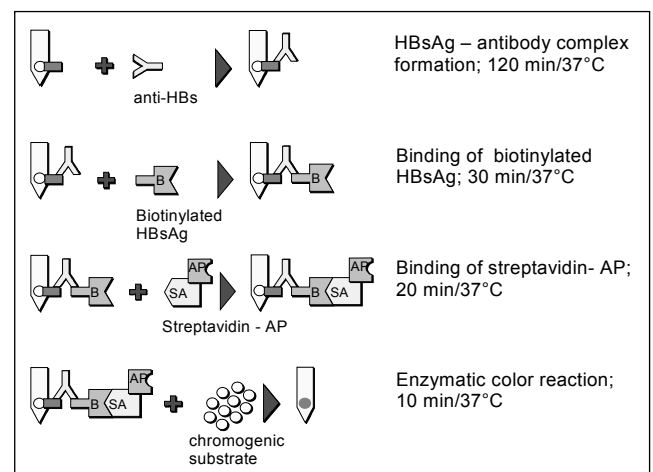

Figure 1. Principle of the Test
To start the test, serum or plasma specimens are added to the diluent in the wells of row A of the Developing Plate. The Comb is then inserted in the wells of row A. Anti-HBs antibodies, if present in the specimens, will bind to the HBsAg on the lower spots on the teeth of the Comb (Figure 1). Unbound components are washed away in row B. In row C, anti-HBs antibodies captured on the lower spots of the teeth, will react with biotinylated HBsAg. In row D the biotinylated antigen/antibody complex on the lower spots of the teeth, and biotinylated bovine serum albumin on the upper spots (Internal Control), will react with streptavidin conjugated to alkaline phosphatase (AP). In row E unbound components are removed by washing. In row F, the bound alkaline phosphatase will react with chromogenic substrate. The results are visible as gray-blue spots on the surface of the teeth of the Comb.